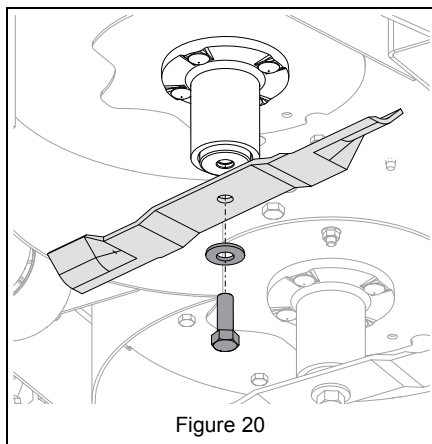

Figure 20
3. Remove hardware securing blades to spindles and remove blades. Retain all hardware for reinstallation. See Figure 20.
See Figure 20.